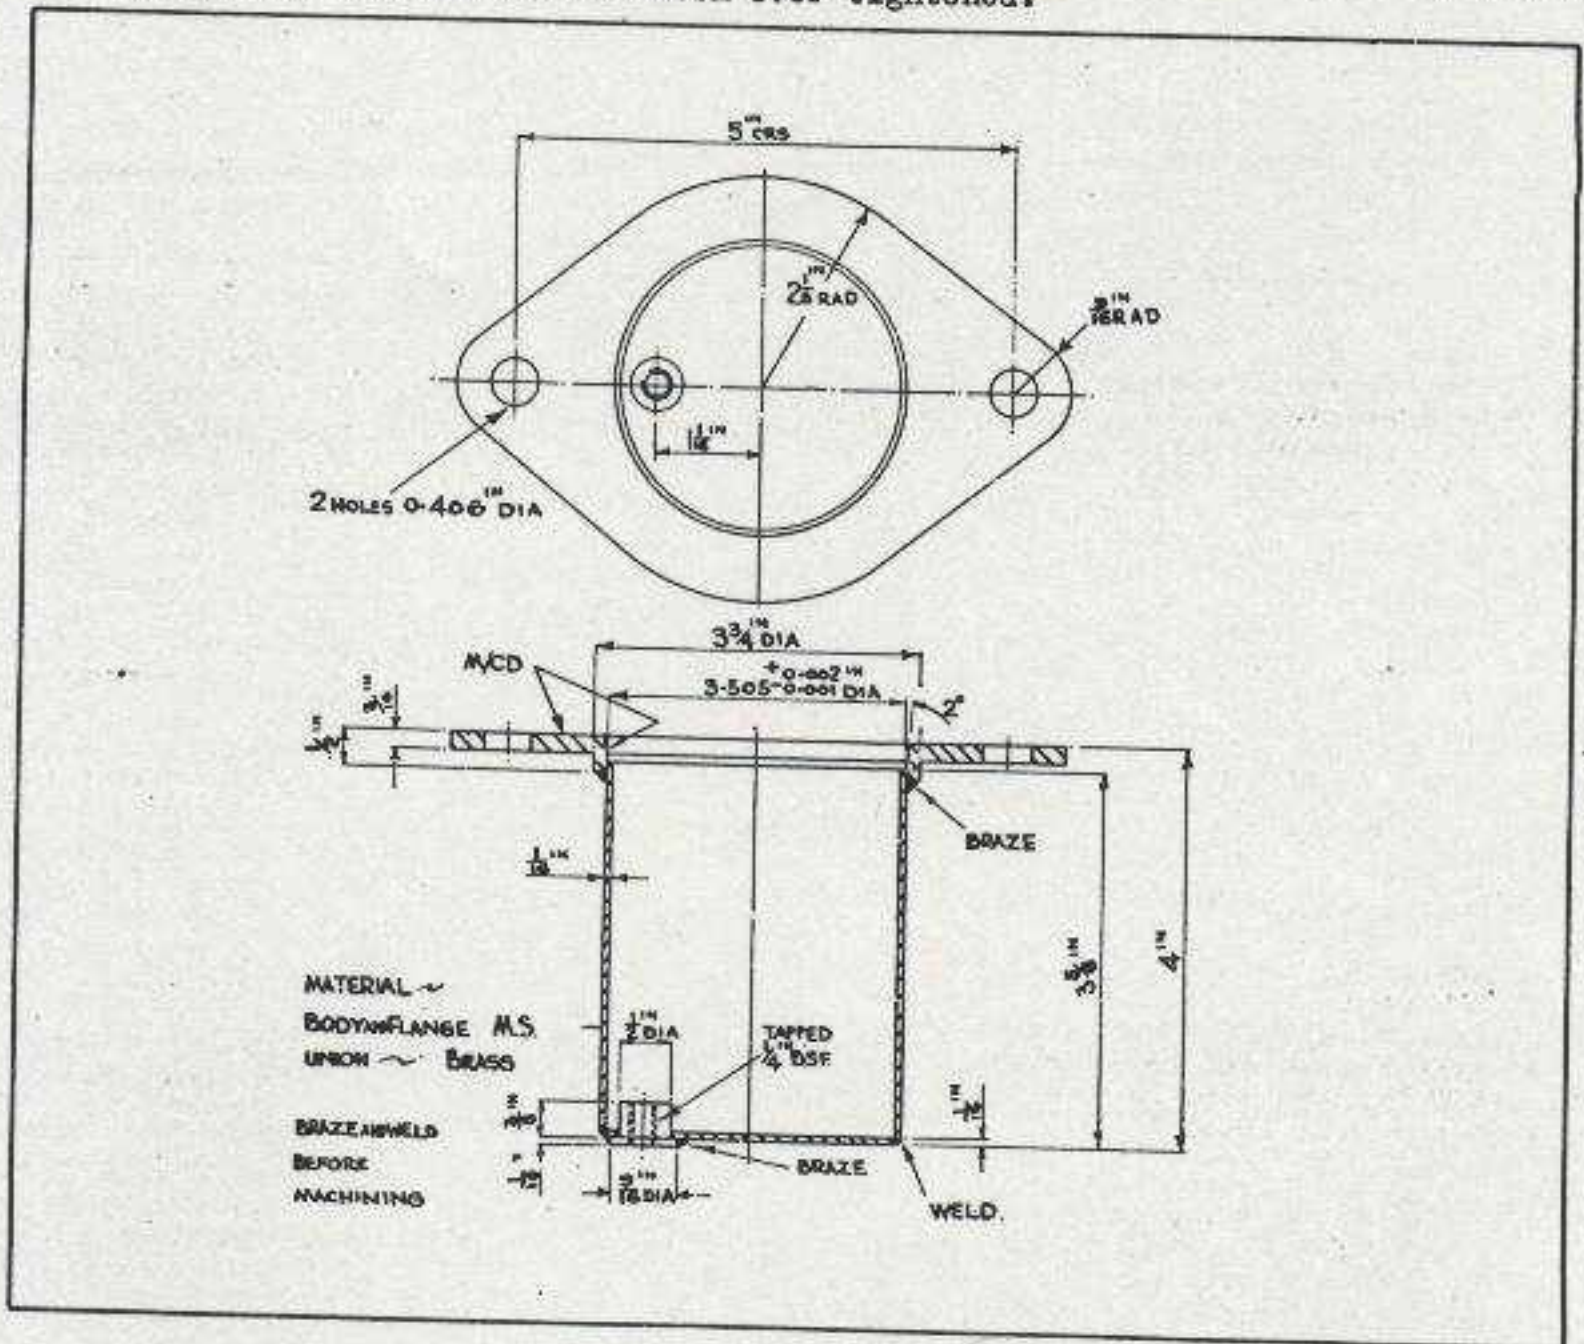

FIG. 38 - STARTER MOTOR NO 1, MK 2 - COVER, SEAL TESTING, DRIVING END (LOCAL MANUFACTURE)
78. After the starter has been bench tested, fit the seal cover (Fig. 38) on the driving end flange. Using outfit 'A' seal testing, pump up to 6 lb/sq.in. and immerse the assembly in water for 15 minutes, the pressure must not fall below 5.75 lb/sq.in.
2. Replace the armature washers (see Fig. 38 (b)) and adjust the contact gaps to the limits shown. Adjusting washers are supplied in thickness of 0.004, 0.008 and 0.012 inch. The thick washer or locating washer must not be removed to obtain correct adjustment.
3. Check the trigger gap, see Fig. 38(b) and adjust by bending the trigger catch plate.